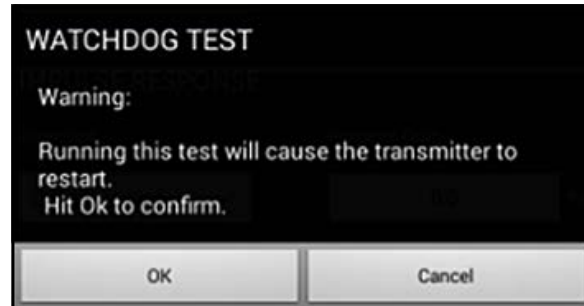

Figure 134: Watchdog Test Warning
2. A properly functioning PT900 restarts if the Watchdog Test is run, and a warning message similar to *Figure 134* below is displayed.